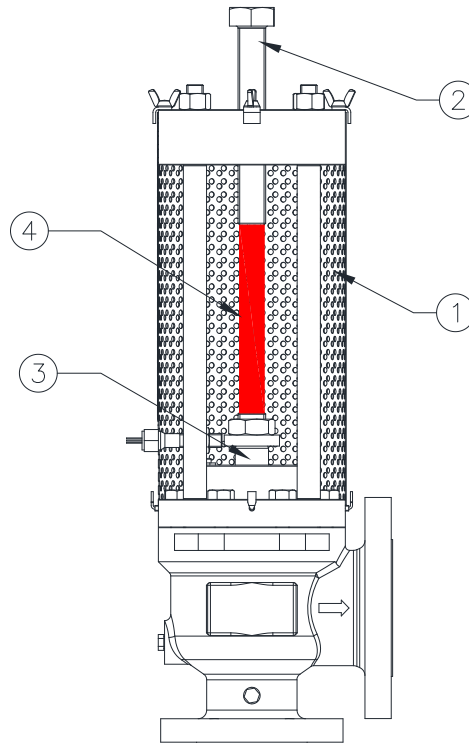

Figure 4: Removal of Shipping Pin
Removal of Shipping Pin (Item 4 of Figure 4)
2. Remove Protective Screen Cover (See Figure 4, Item 1).
3. The valve is in closed position with an inactivated Buckling Pin, "such as shipping pin", the Adjuster screw (Item 2 of Figure 4) need to be unscrewed counterclockwise until the shipping pin can be removed using the wrench size specified in the Table 3 below or by using the Reset Tool. Preserve the "Shipping pin", it will be used to reset the valve with new buckling pin after activation.